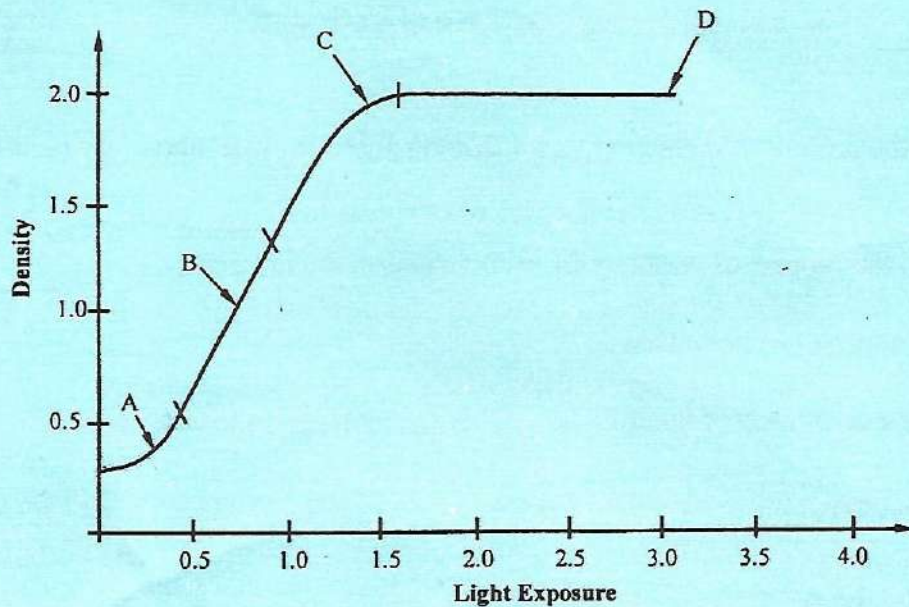

Fig. 1
7. Figure 1 shows the characteristic curve of a film speed.